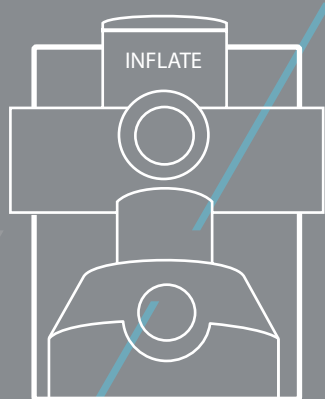

Figure 3.
- To use the pump for inflation, fix the hose by turning clockwise onto the pump air outlet labelled inflate **Figure 3** or to use the pump for deflation fix the hose by turning clockwise onto the pump air outlet labelled deflate. **Figure 4**